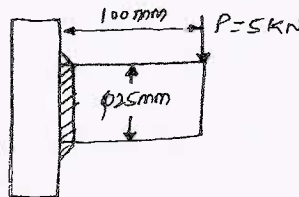

Fig.Q8(a)
- 8 a. A solid circular shaft 25 mm in diameter is welded to a support by means of a fillet weld as shown in Fig.Q8(a). Determine the leg dimensions of the weld if the permissible shear stress is  $95 \text{ N/mm}^2$ .